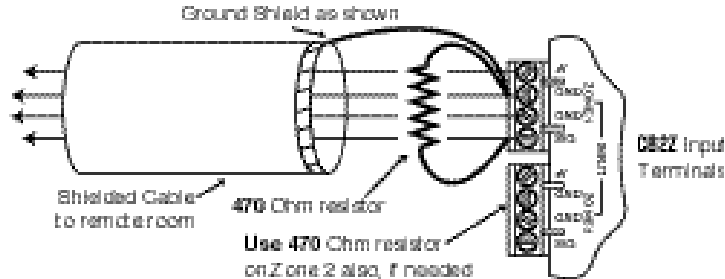

Fig. 2: 470 Ohm Capacitance
- Inputs: 2 - Four screw removable connectors to interface with all 3-wire IR receivers (see Caution Note, Fig. 2, below)
When using lengths greater than 200 feet of inter-room shielded cable, it may be necessary to connect a 470 Ohm 1/8 Watt resistor between INPUT (SIG) and GROUND (GND) at the IR input terminals of the **CB2Z**. Refer to Fig. 2, above. The resistor discharges the cable capacitance more quickly, allowing IR codes of high bit